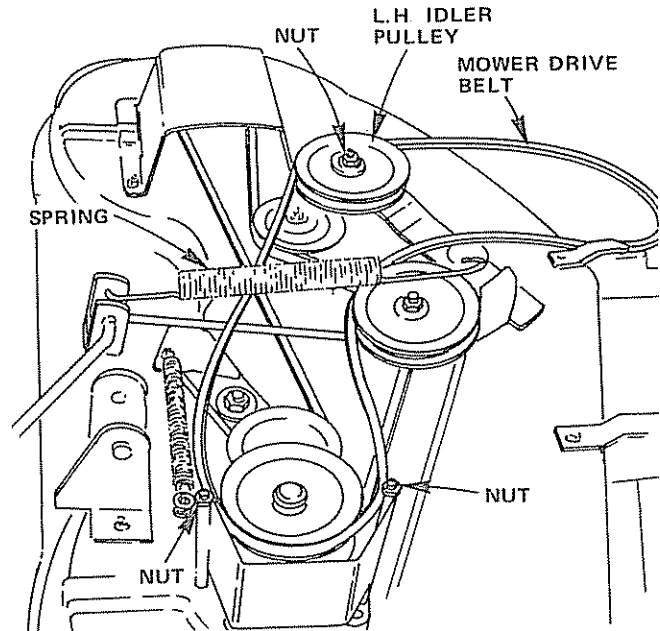

FIGURE 27
4. Use 1/2" wrench to loosen two Nuts on R.H. Belt Guard. Pull Belt off Pulley (Fig. 27).
5. Use 9/16" wrench to loosen Nut on L.H. Idler Pulley. Pull Belt off Pulley (Fig. 27).
9. Replace Brake Spring, Brake Rod and Retainer Spring. Tighten two Nuts on Belt Guard and Nut on L.H. Idler Pulley (Fig. 27).